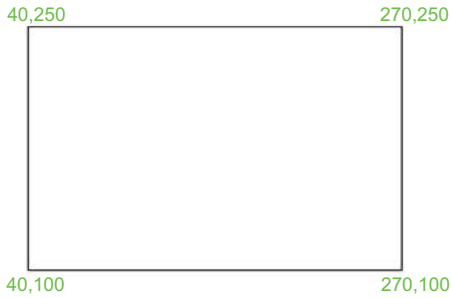

Fig. 3.28 Exercise 1
1. Using the **Line** tool, construct the rectangle (Fig. 3.28).